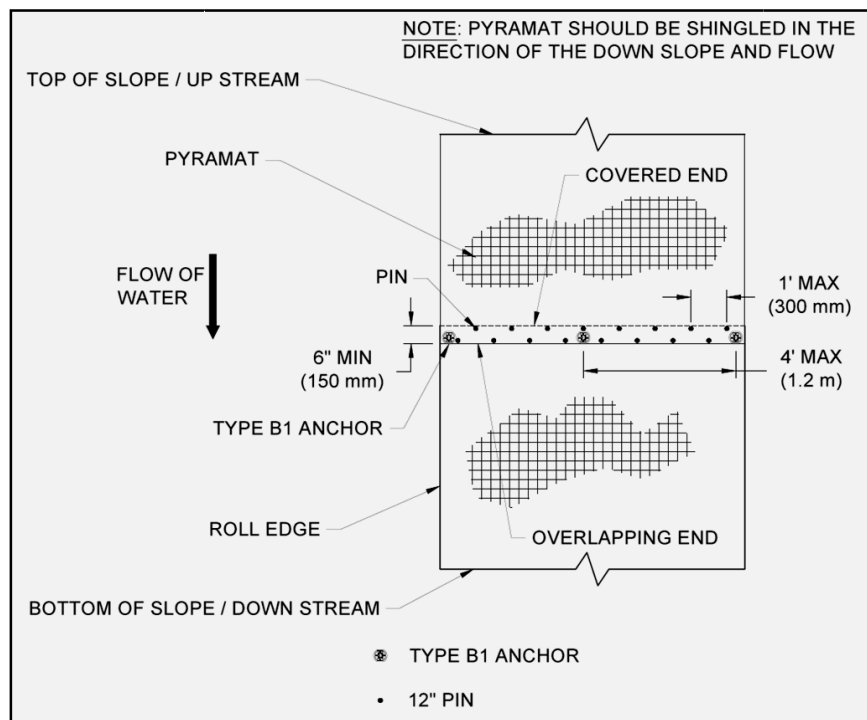

Figure 24: Roll End Overlap
12. Overlap the upstream Pyramat panels a minimum of 6 in (150 mm) overtop of the downstream Pyramat panels following the roll end anchoring requirements outlined below (Figure 24).
- Roll ends shall be overlapped a minimum of 6 in (150 mm) with upstream panel on top. Secure roll end overlaps with two rows of pins staggered 6 in (150 mm) apart on 12 in (300 mm) centers and with one row of PDEAs on 4 ft (1.2 m) centers (Figure 24)